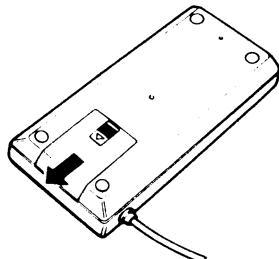

Fig 2-1
- Slide the cover/door of battery compartment as shown in Fig 2-1 and remove it.